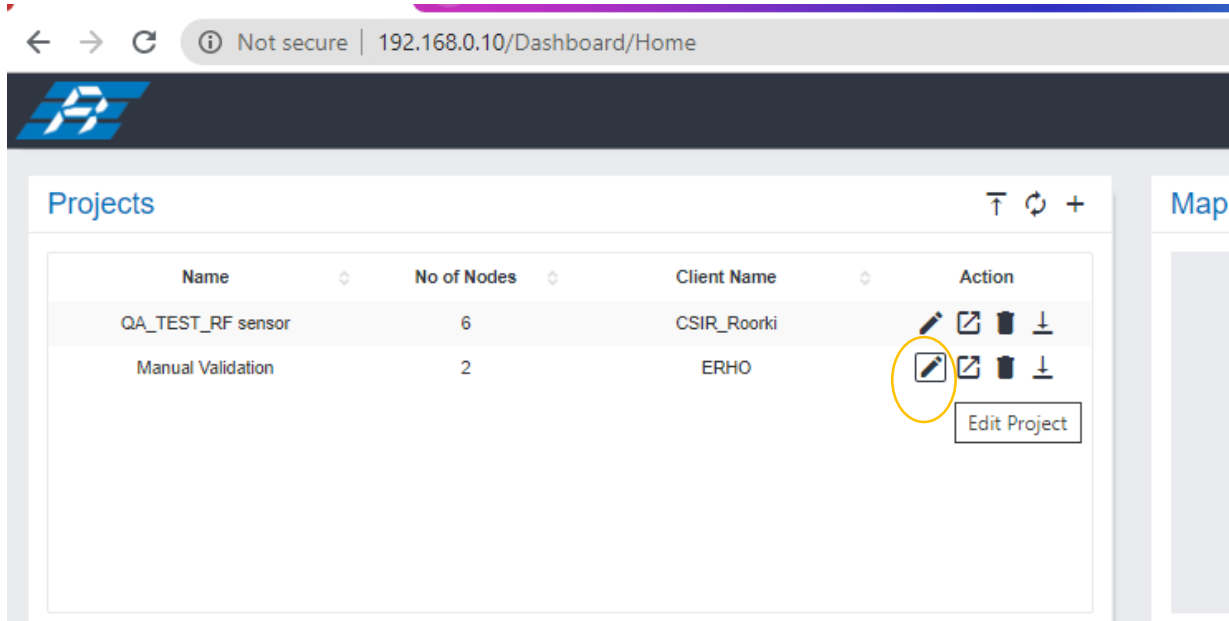

Figure 3-26
1. On the Dashboard, in the 'Projects' section, click on pencil icon to edit the selected Project (refer to figure 3-26).